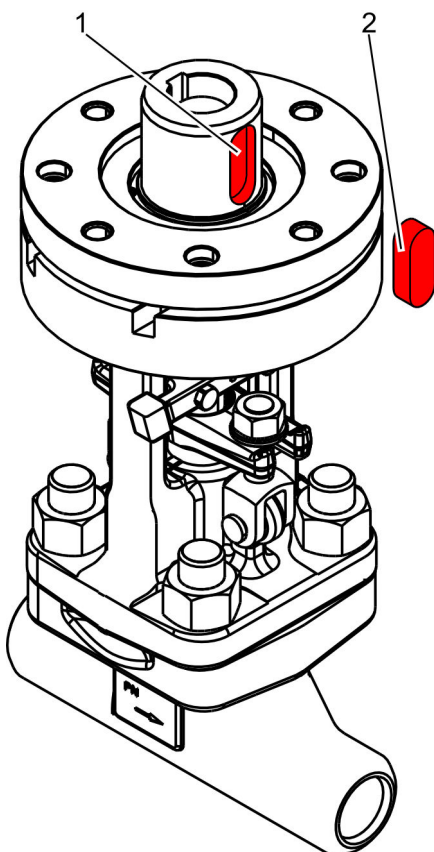

Fig. 23: Removing the feather key
4. ➤ Remove the feather key (Fig. 23/2) from the feather key groove (Fig. 23/1) of the threaded bush.